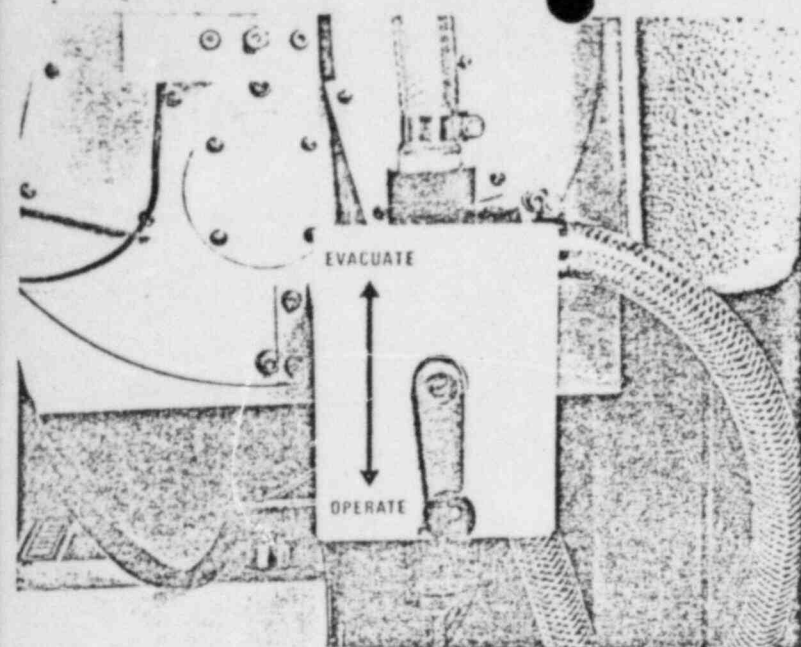

Figure 6. Flow selector valve in Operate position
- 2.4 Insure that the Flow Selector Valve (Refer to Figure 6) is in the OPERATE (Vertical-Down) position. THE POSITION OF THE FLOW SELECTION VALVE IS EXTREMELY CRITICAL TO THE PROPER OPERATION OF THE VENTIL-CON!